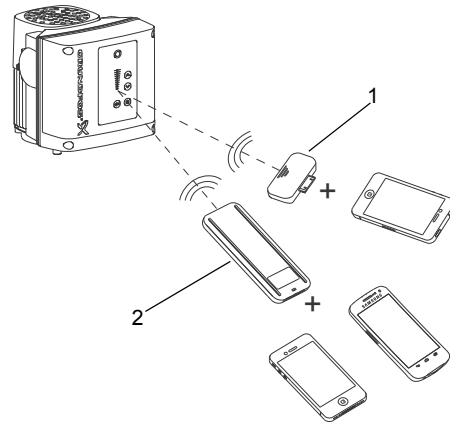

Fig. 19 Grundfos GO Remote communicating with the pump via radio or infrared light
The Grundfos GO Remote offers three different mobile interfaces (MI). See fig. 19.